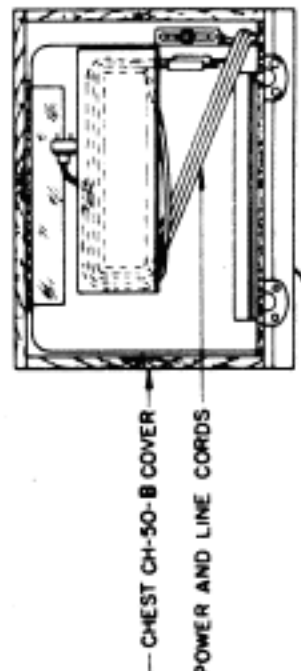

FIGURE 2.
1. SET CHEST CH-50-A BASE ON CHEST CH-50-A COVER AS SHOWN IN FIGURE 2.
1. SET CHEST CH-50-B BASE ON CHEST CH-50-B COVER AS SHOWN IN FIGURE 2.